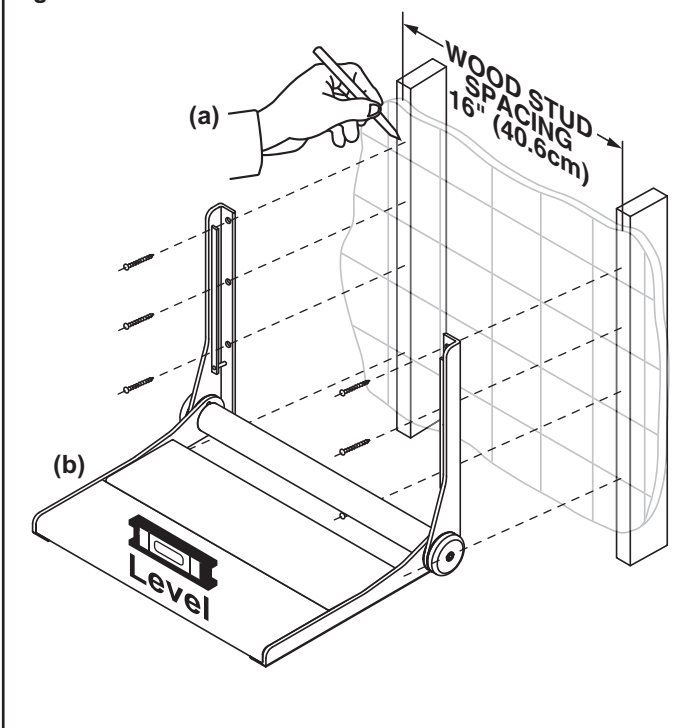

Figure 2.
**A2.** Notch the tile accurately with a center punch as shown in **Figure 2**. **NOTE:** A light tap is all that is required for punch to make notch.
3. Fabricate a support frame structure from suitable wood pieces as shown in **Figure 2**. Support frame width (D) should fit snugly within wall studs. Support frame height (E) should be from 24-32" (61-81cm) high or more, depending on material and stiffness of wall studs. Locate top cross member (F) to position in line with top hole on the wall bracket when seat is at install height (H). Lower cross member (G) should be spaced at C = 14.125" (37.465cm) center to center from top cross member (see Page 4 for dimensions of 2 center cross members). Use a generous quantity of wood screws and glue to hold the support frame structure together as shown. See alternative to support frame as shown in **Figure 3**.